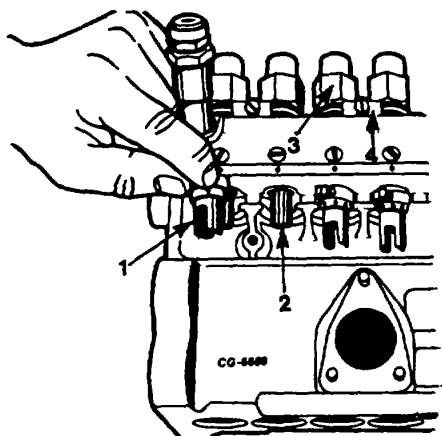

Figure 26. Removing Control Sleeves
14. Remove control sleeves from barrels (Figure 26).